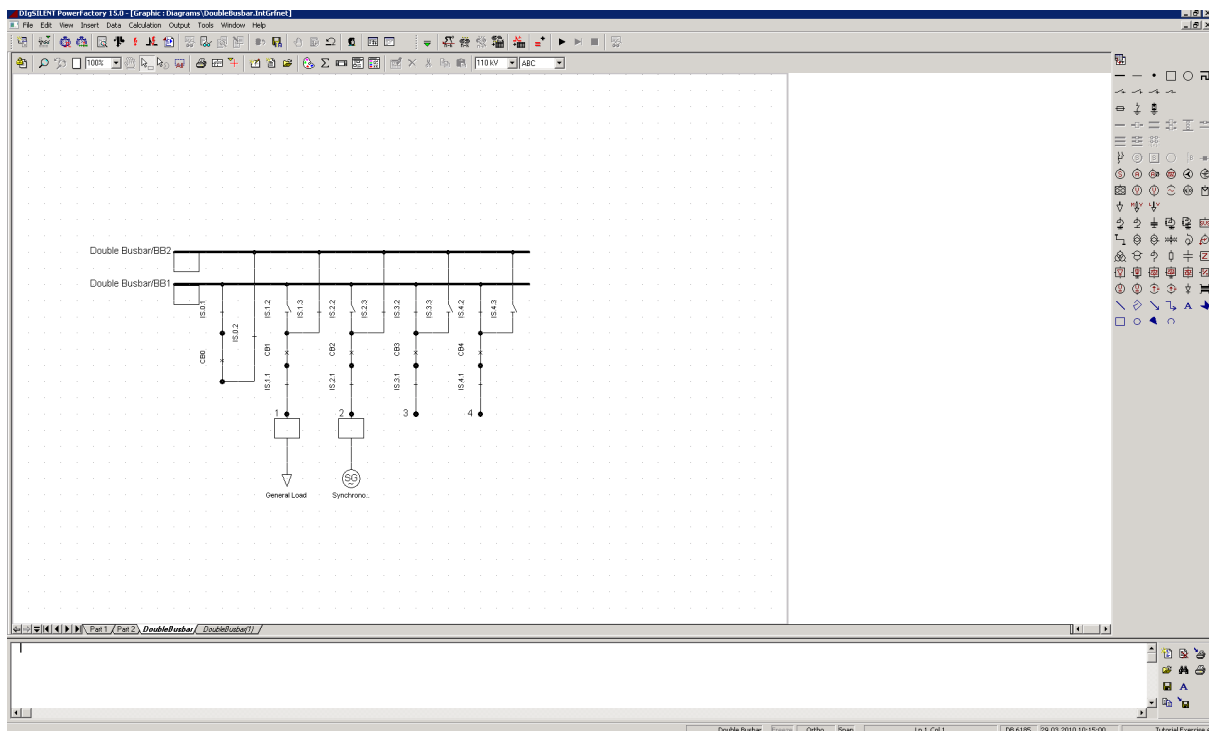

Figure F.1.2: Detailed Graphic of a substation with double busbar system
- Go to one of the detailed graphics of the substations as shown in Figure F.1.2. If the graphic pages are not available, click on the double busbar system in the graphic "Part 2" with the right mouse button and select 'Show Detailed Graphic of Substation' from the context sensitive menu.